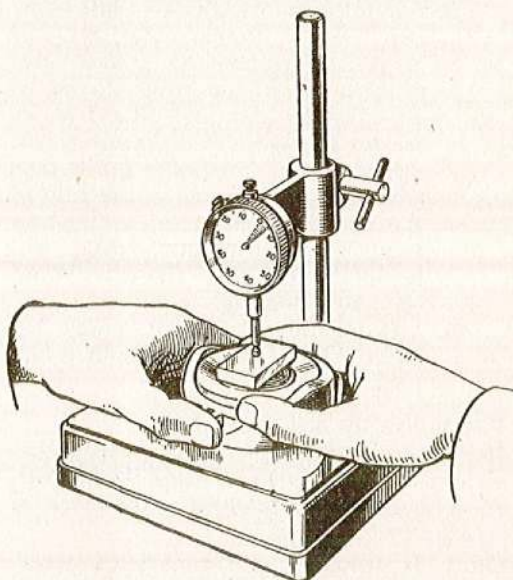

Fig. 6. Checking the cam-plate lift
9. Check the cam-plate lift as shown in fig. 6. If the lift is incorrect (para. 39, Op. 8) or if the cam-plate is badly worn *do not attempt to strip this assembly* but discard complete.